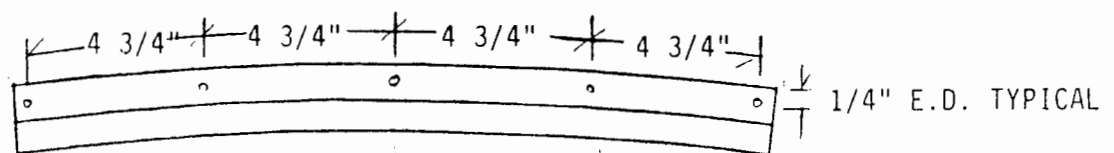

FIGURE 021-06
6. Mark off the windshield hold down strip as shown in Figure 021-06 and drill #30 and cleco. with 3 or 4 clecos.